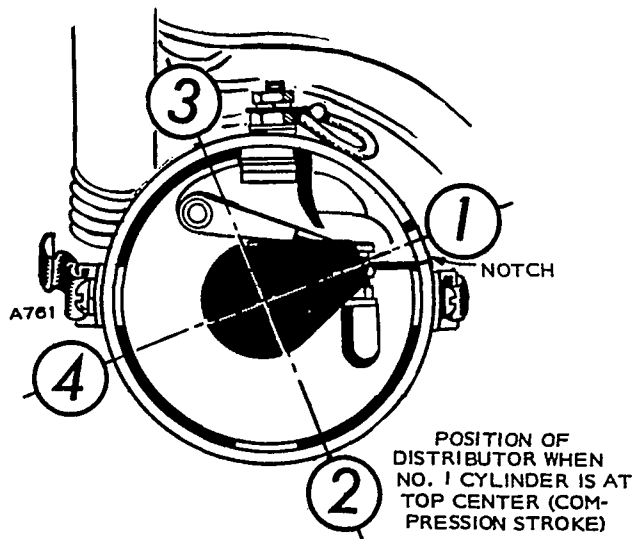

FIGURE 47. DISTRIBUTOR POSITIONING
3. While holding distributor in position shown in Figure 47 and the rotor 1/8 turn counterclockwise